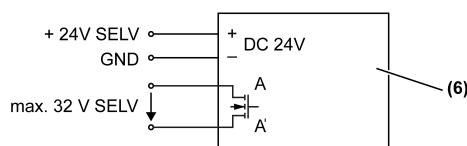

Figure 4: Connection in general
| (Figure 4) | (6) Motion detector mini basic |